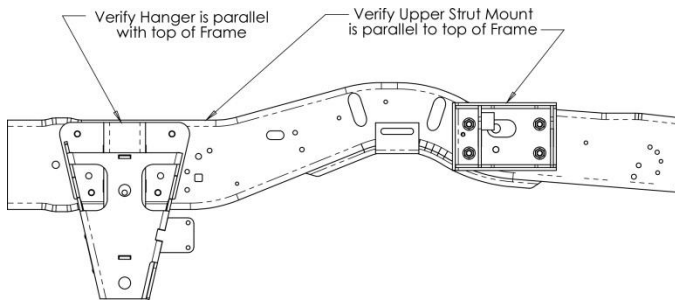

Figure 11. Verify Components level with frame.
2. Verify that the Upper Strut Mount is parallel to the top of the frame (see Figure 11).
6. Verify that the Upper Strut Mount is parallel to the top of the frame (see Figure 11).